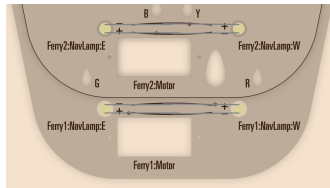

Fig. 3.5
- For each horizontal pair (one for each boat), BEND 3mmLED feet inwards towards one another (Fig. 3.5), striving to lay them flat + parallel, with both upper feet touching/overlapping, and both lower feet touching/overlapping ('holding hands').